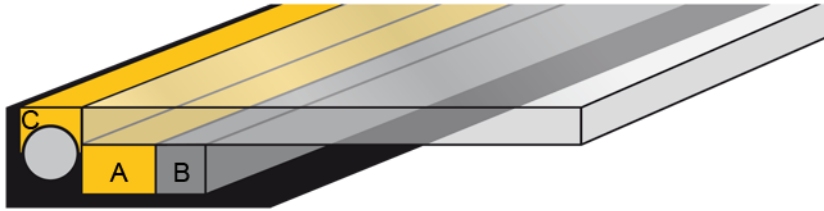

Figure 1: Encapsulated adhesive
In some construction details it is requested to encapsulate the applied structural glazing adhesive with a weather seal or gasket etc. (see Figure 1). The minimum time between the adhesive application and encapsulation depends very much on the type of adhesive and the gasket material (see Table 3).
* Times can be reduced with the use of Sika® Spacer Tape HD (see Figure 1, material B). For details consult the Technical Department of Sika Industry.